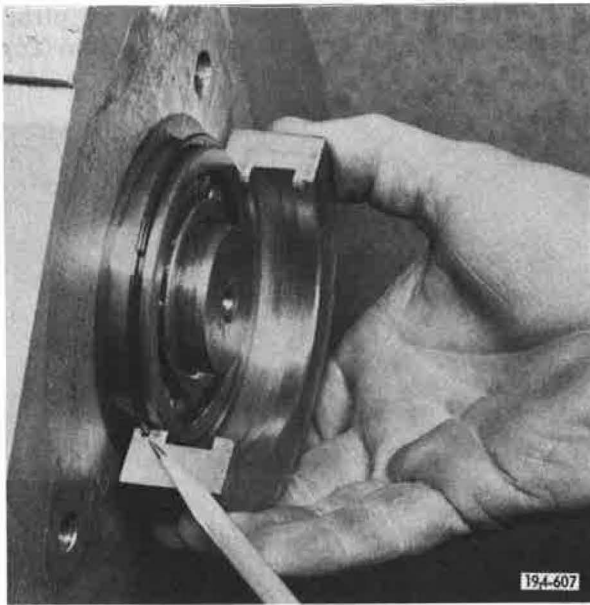

Figure 5-283. Installing First Clamping Half
15. Position the first clamping half of tool S593C to engage the snap ring, as shown in Figure 5-283. Note pencil pointing to snap ring and corresponding groove in tool.